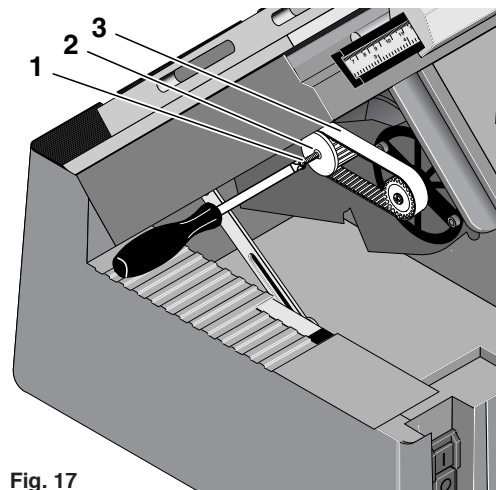

Fig. 17
5. Unscrew the Phillips screw 1 (fig. 17). Remove thrust washer 2.